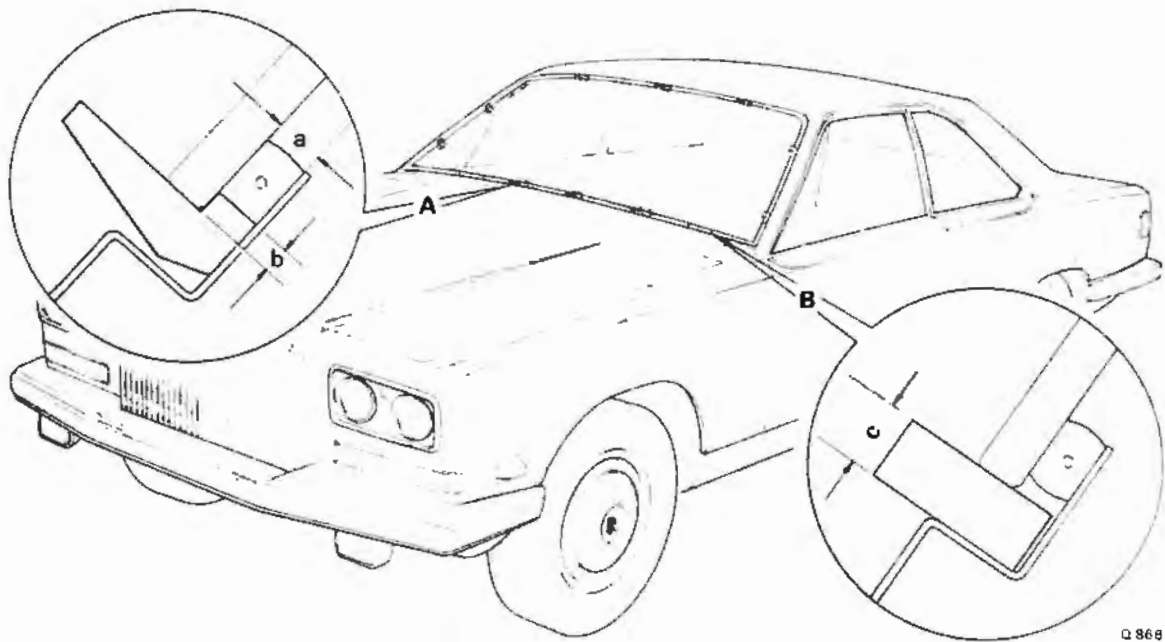

FIG 2 SPACERS AND DEPTH CONTROL BLOCKS IN POSITION
6. Locate the screen onto the distance spacers then centrally position the windscreen in the aperture. Adjust the thickness of the distance spacers if necessary until this condition is obtained. (see Fig. 2).
13. Connect the 24 volt supply to the ends of the wire running through the Solbit seal then insert the depth control blocks between the glass and the flange, suitably spaced around the periphery of the glass (see Fig. 2). Allow the current to flow through the seal. Press the glass onto the Solbit until it comes into contact with the depth control blocks; start by applying hand pressure at the centre and working outwards towards the pillars until the glass is sealed evenly on the blocks (see Fig 2).
The function of the depth control blocks is to ensure a satisfactory seal seating dimension. Suitable blocks can be produced from wood or similar easily shaped material. Refer to Fig 2 which shows a depth control block in position and the required glass to flange dimension; ensure that the glass seating ledge of the block does not intrude into the Solbit by more than 3,2 mm (0.125 in).